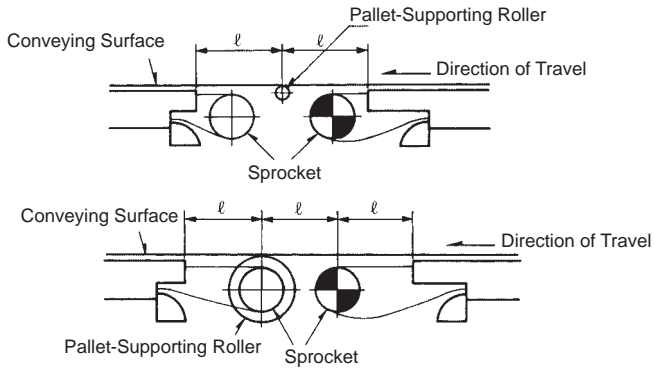

Figure 5.8 Placement of Pallet-Supporting Rollers
- (1) There are two types of DOUBLE PLUS® base chain: with or without bushings. The bearing area on the type with bushings is larger, creating a contact surface between the pin and bushing. The bearing area on the type without bushings is limited to the contact surface between the side plate and the pin. Chain with bushings has much better wear characteristics.
- (2) The guide rail and bottom surface of the pallet should be smooth and straight in a DOUBLE PLUS Chain system for proper operation. Therefore, check and compare that the chain has a flexible construction that can accommodate irregularities.
- (3) Large and small rollers are available in different types of materials: standard, electroconductive, and high friction (for increased pallet acceleration). These specifications may be combined to suit your needs.
- (4) Aluminum extrusions are usually available through the manufacturer. If the weight on the pallets is very heavy, or you want to extend the working life of the system, steel rails should be used.
- (5) If you lubricate between the pins and bushings to reduce the noise and wear elongation, do not allow oil to get on the contacting surface of the large rollers and small rollers or on the outer surface of small rollers. If these parts are contaminated with oil, the pallets will not accelerate fast enough or they won't reach the operating speed because of roller slip. You should buy prelubricated chains.
- (6) The rigidity of the chain depends on its structure. The greater the rigidity, the less likely that stick slip will occur (see Basics Section 2.3.5). If the conveyor is less than 15 m long, the possibility of stick slip is greatly reduced.
- (7) There will be a gap between head and tail sprockets of two separate DOUBLE PLUS® conveyors when they are positioned in one line. Install a pallet-supporting roller in the transition area (Figure 5.8).